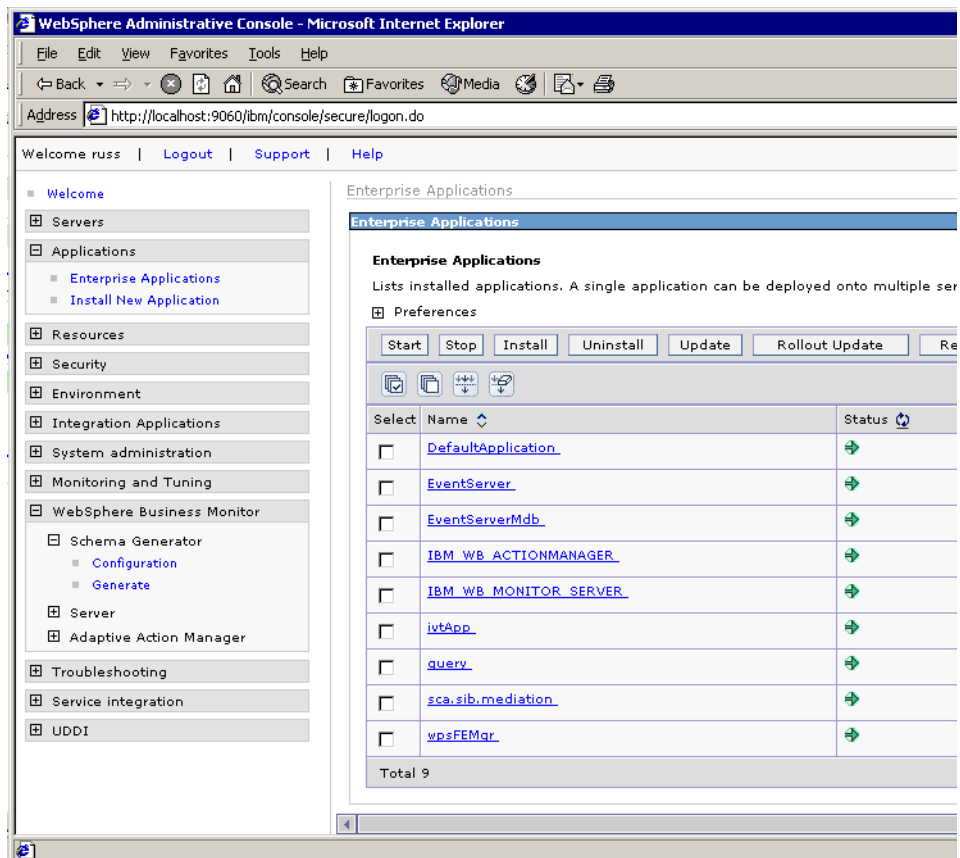

Figure B-12 Monitor Application Server Administrative Console
- ▶ When the server has started, open the administrative console by selecting *Start* → *Programs* → *IBM WebSphere* → *Process Server 6.0* → *Profiles* → *monitor* → *Administrative console*. The Enterprise Applications should be started (Figure B-12).